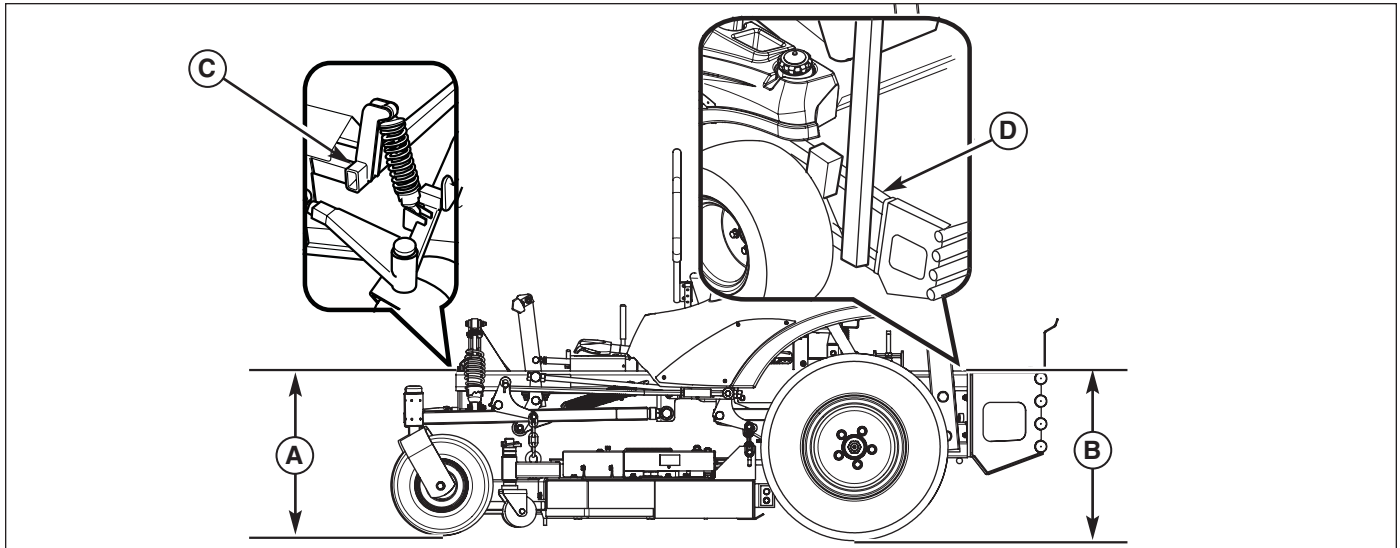
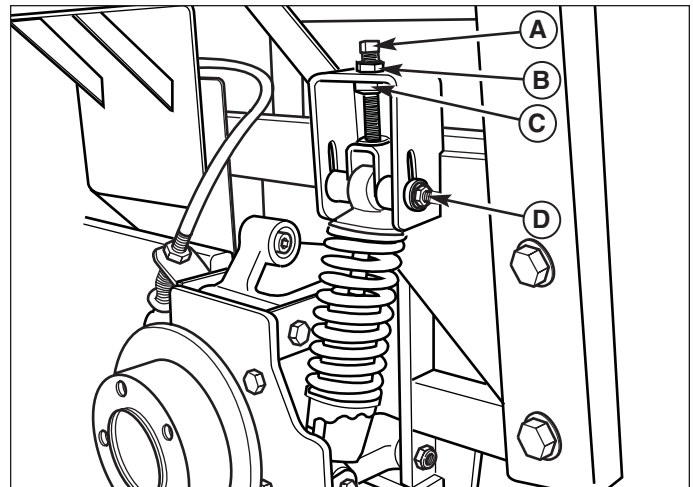

Figure 1. Inspecting the Rear Suspension for Proper Adjustment
Figure 2. Adjusting The Rear Suspension
2. Refer to Figure 1. Rear tires must be inflated to 15 psi (1,03 bar); front tires to 25 psi (1,72 bar). Measure and record the distance from the top of the left front frame rail to the ground. Measure and record the distance from the top of the left rear frame rail to the ground. If the measurements are the same no adjustment is required on the left side of the machine. If the measurements are not the same, perform the corrective procedure detailed on the following page. Repeat the process for the right side of the machine.
1. Loosen, but do not remove the upper shock mounting bolt (D, Figure 2).
2. Loosen the top jam nut (B).
3. While holding the bottom jam nut (C) with a tool, turn the adjuster bolt (A) clockwise to increase the height at the rear of the machine, counterclockwise to decrease the height at the rear of the machine.
4. Refer to Figure 1. Measure and record the distance from the top of the front frame rail to the ground. Measure and record the distance from the top of the rear frame rail to the ground. If the measurements are the same, continue with Step #5. If the measurements are not the same, repeat Step #3.